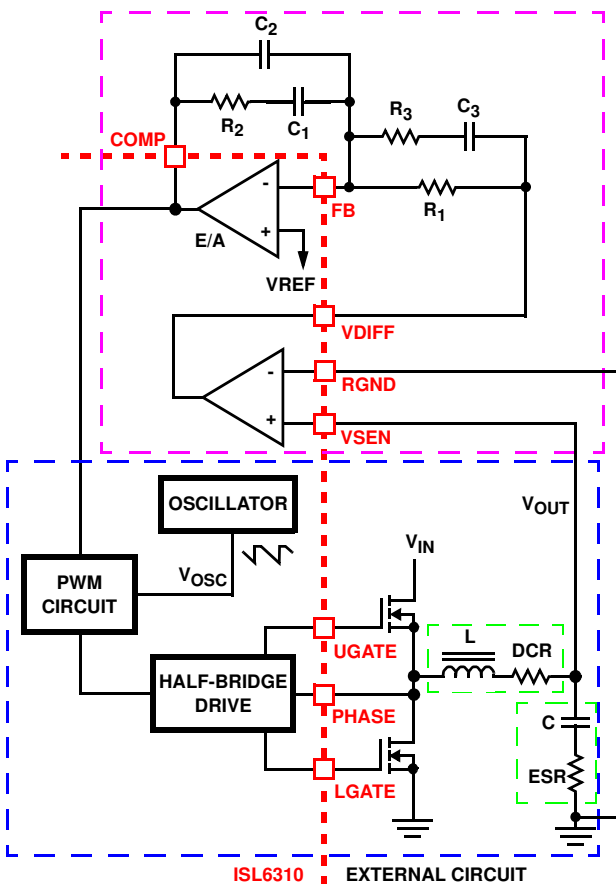

FIGURE 22. VOLTAGE-MODE BUCK CONVERTER COMPENSATION DESIGN
Figure 22 highlights the voltage-mode control loop for a synchronous-rectified buck converter, applicable, with a small number of adjustments, to the multi-phase ISL6310 circuit. The output voltage ( $V_{OUT}$ ) is regulated to the reference voltage,  $V_{REF}$ , level. The error amplifier output (COMP pin voltage) is compared with the oscillator (OSC) modified saw-tooth wave to provide a pulse-width modulated wave with an amplitude of  $V_{IN}$  at the PHASE node. The PWM wave is smoothed by the output filter (L and C). The output filter capacitor bank’s equivalent series resistance is represented by the series resistor ESR.
1. Select a value for R1 (1kΩ to 5kΩ, typically). Calculate value for R2 for desired converter bandwidth (F0). If setting the output voltage to be equal to the reference set voltage as shown in Figure 22, the design procedure can be followed as presented. However, when setting the output voltage via a resistor divider placed at the input of the differential amplifier (as shown in Figure 6), in order to compensate for the attenuation introduced by the resistor divider, the obtained R2 value needs be multiplied by a factor of (RP1 + RS1)/RP1. The remainder of the calculations remain unchanged, as long as the compensated R2 value is used.